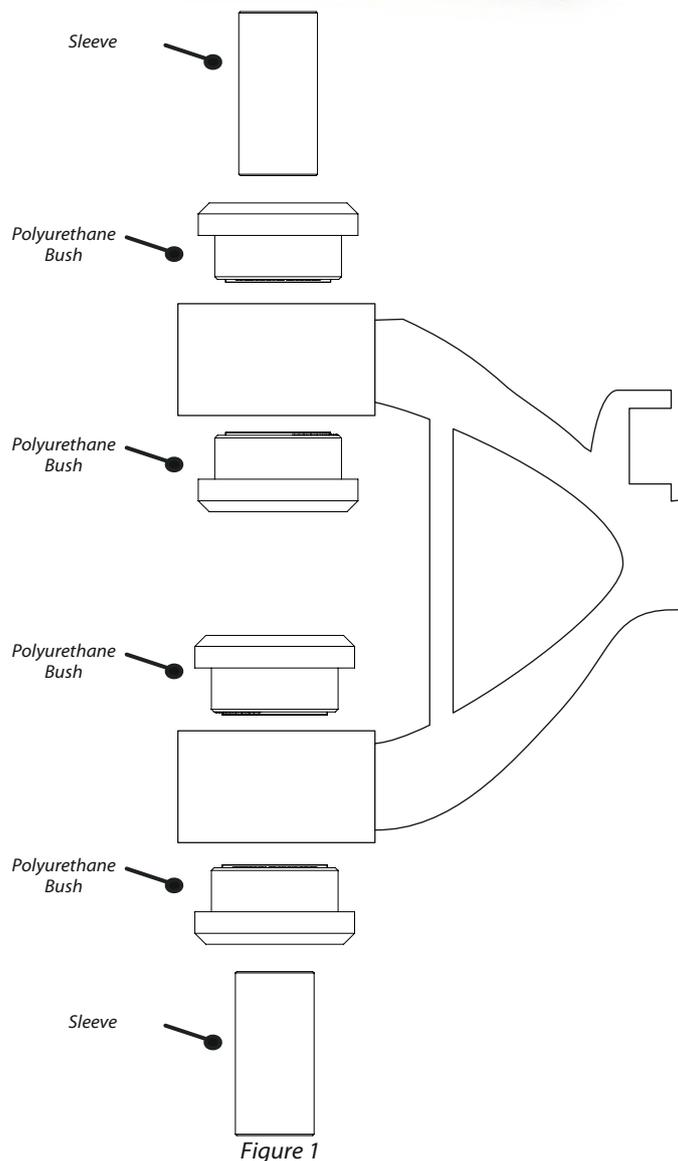

Figure 1
4. Push the Polyurethane bushes into place in the wishbone bores (Figure 1).
6. Push the sleeves into the bushes (Figure 1).